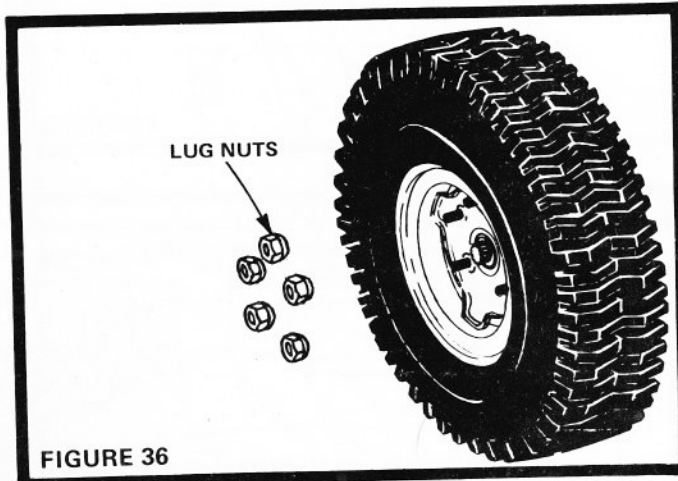

FIGURE 36
- e. Removing rear wheel for tire repair (Fig. 36):